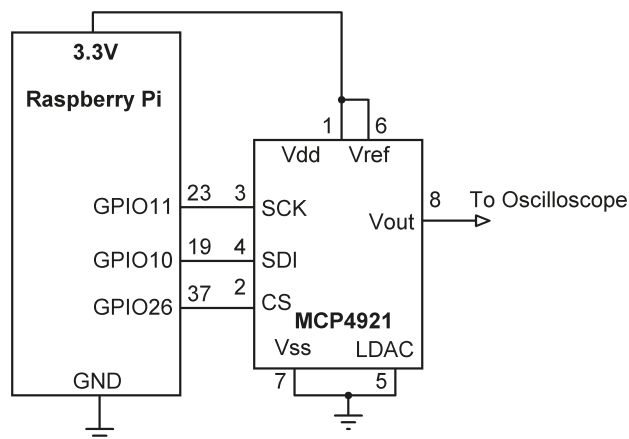

Figure 4.33: Circuit diagram of the project.
**Circuit Diagram:** The circuit diagram of the project is as shown in Figure 4.33